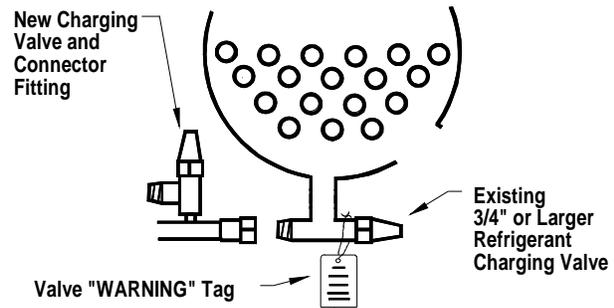

Figure 6. - Using New Charging Valve
1. Using the New Charging Valve and adapter fitting provided, run transfer line piping (using refrigeration grade $\frac{3}{4}$ " copper tubing) between the evaporator charging valve and the containment vessel (see Figure 6). Do not open charging valve at this time. **DO NOT REDUCE PIPE SIZE!**
4. OPEN existing charging valve on chiller evaporator and attach "**WARNING**" TAG to the valve (see Figure 6, ALSO READ WARNING BELOW).